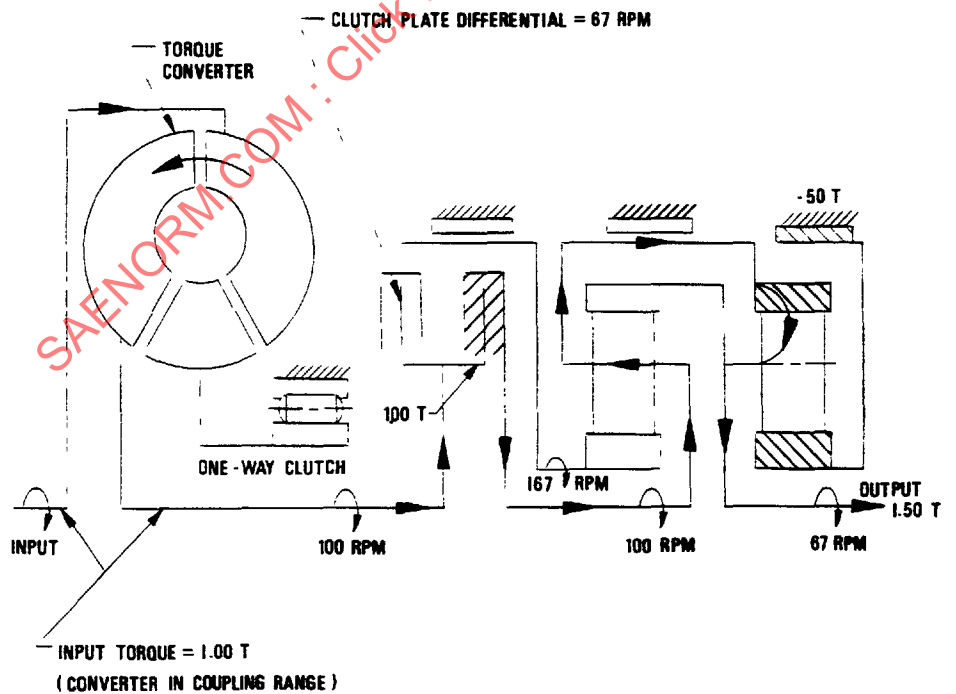

FIGURE 6—FOUR-SPEED TRANSMISSION DIAGRAM—2ND SPEED
4.3 Planetary Gear Transmission (Figure 6)—Second gear is illustrated. The pertinent brake band is crosshatched to denote brake application. Additional information added to this diagram is optional: